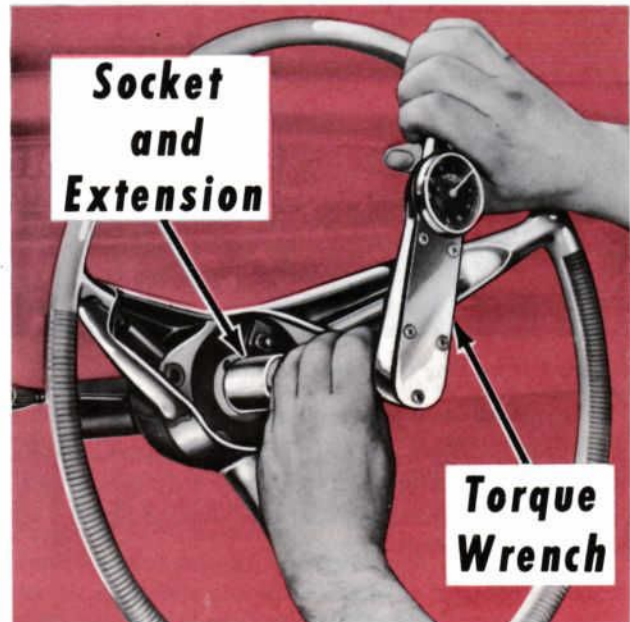

Figure 6—Steering Gear Load Test
3. Turn the steering wheel to either stop. Attach an in-lb torque wrench to the steering wheel attaching nut (Fig. 6). Measure the force required to move approximately 20 degrees away from the stop. If the reading is not within 3-4 in-lbs, loosen the bearing adjuster locknut on the steering gear, and tighten or loosen the adjuster to bring the worm bearing preload within specifications.